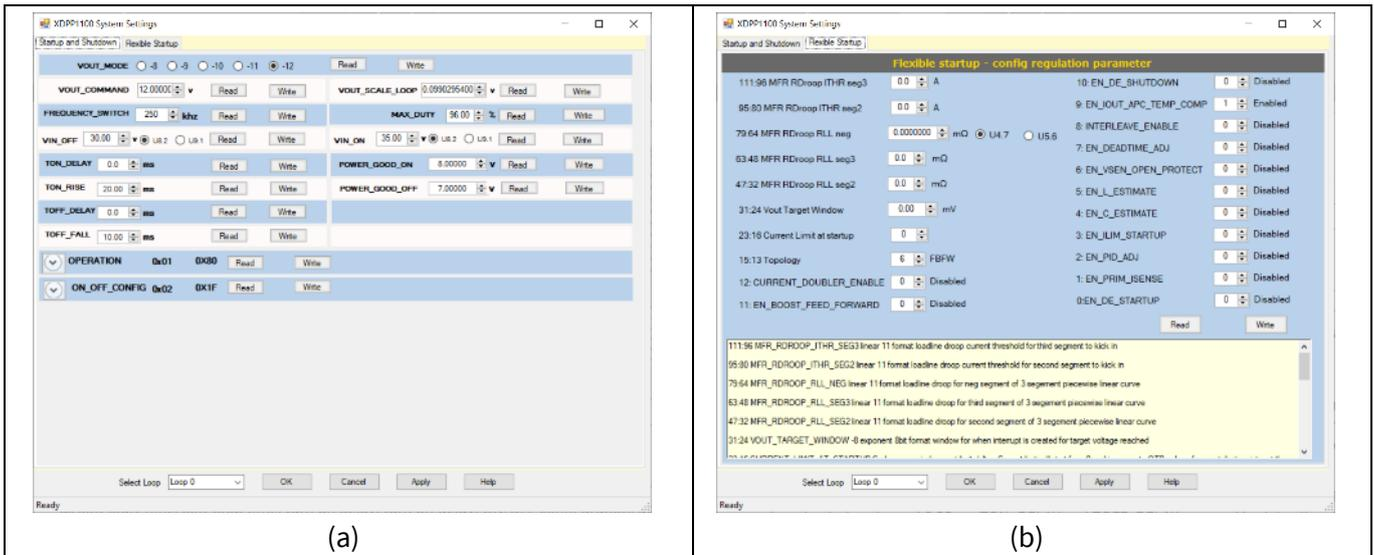

Figure 22 XDP1100 System settings - a) startup and shutdown, b) flexible startup
The **XDPP1100 System Settings** window will be opened with **Startup and Shutdown** and **Flexible Startup** tabs (**Figure 22**).
Various startup and shutdown features of the XDPP1100 such as soft-start time, soft-stop time, turn-on delay, turn-off delay, on/off configuration, and response to enable command can be configured in this tab (Figure 22). The PMBus commands in this tab are the standard PMBus commands, and their description can be found in PMBus specification documents.
Advance startup features of the XDPP1100, such as multi-segment droop, and some FW features such as current sense (CS) temperature compensation and diode emulation startup can be configured in this tab (Figure 22). The PMBus commands in this tab are the Infineon-specified PMBus commands, and their description can be found in the XDPP1100 application note (link to download)
This evaluation board uses PCB trace as a shunt resistor to measure the output current. To achieve better current measurement accuracy over the wide temperature range, temperature compensation of the output current is enabled. To do so, **EN_IOUT_APC_TEMP_COMP** is set to 1 in **Flexible Startup** window (Figure 22). Temperature coefficient is set to 0.0039 internally for the copper.